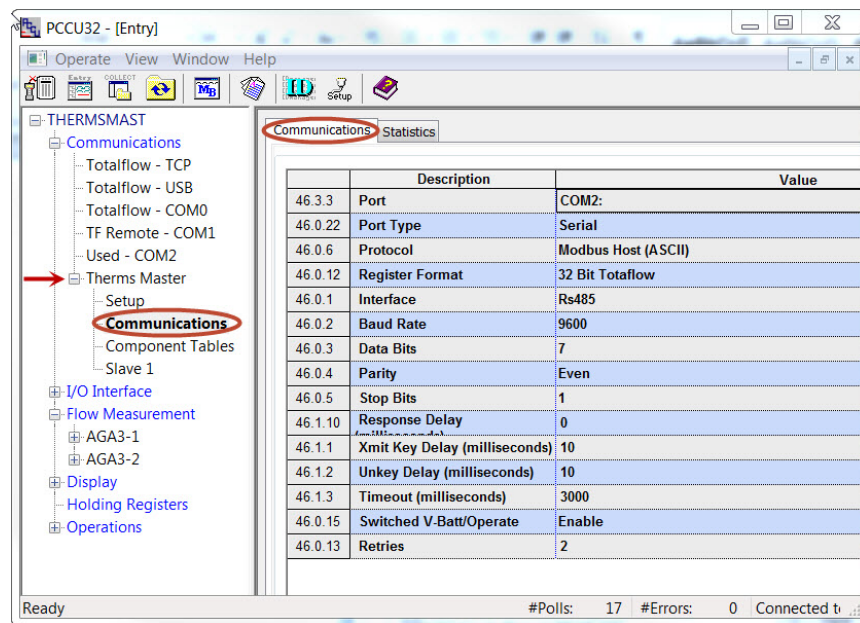

Figure 23. Verify Therms Master communication parameters
- 2) Insert parameters for communications (see Figure 23). Table 2 shows the parameters whose default values must change to reflect the specifics of the customer scenario. If default values meet the customer requirements, leave unchanged.